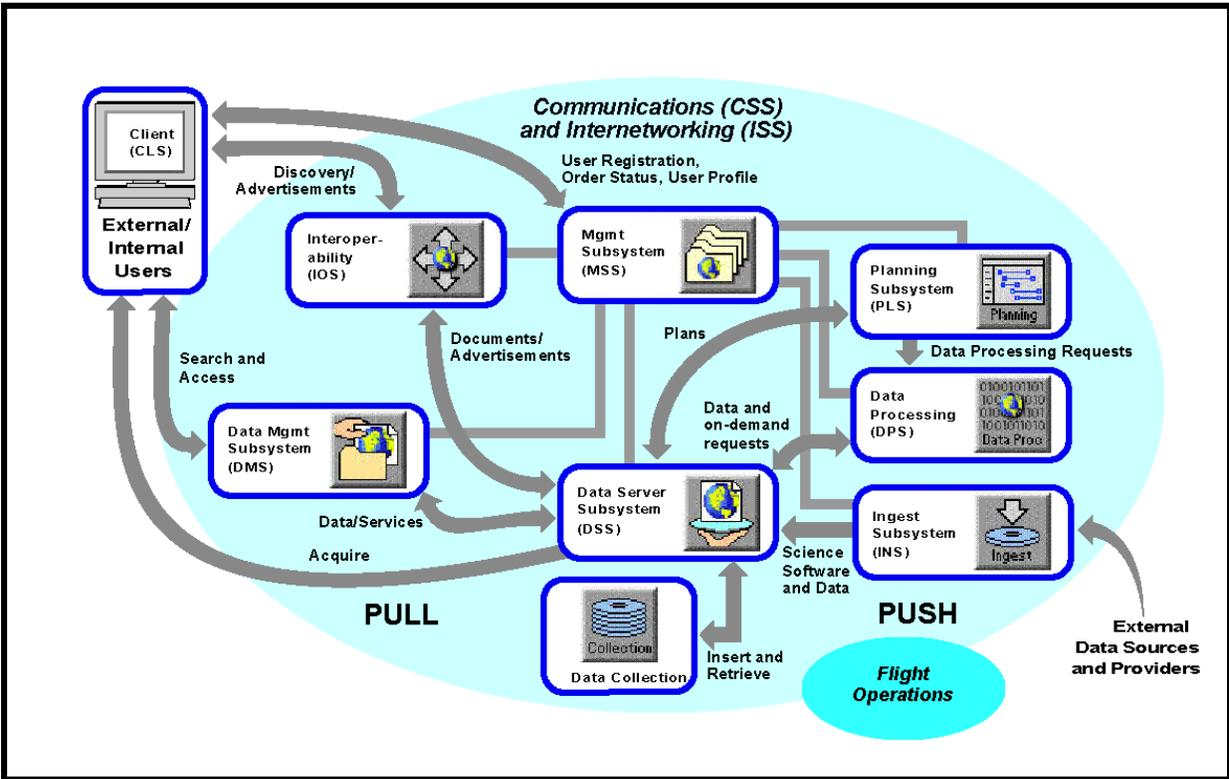
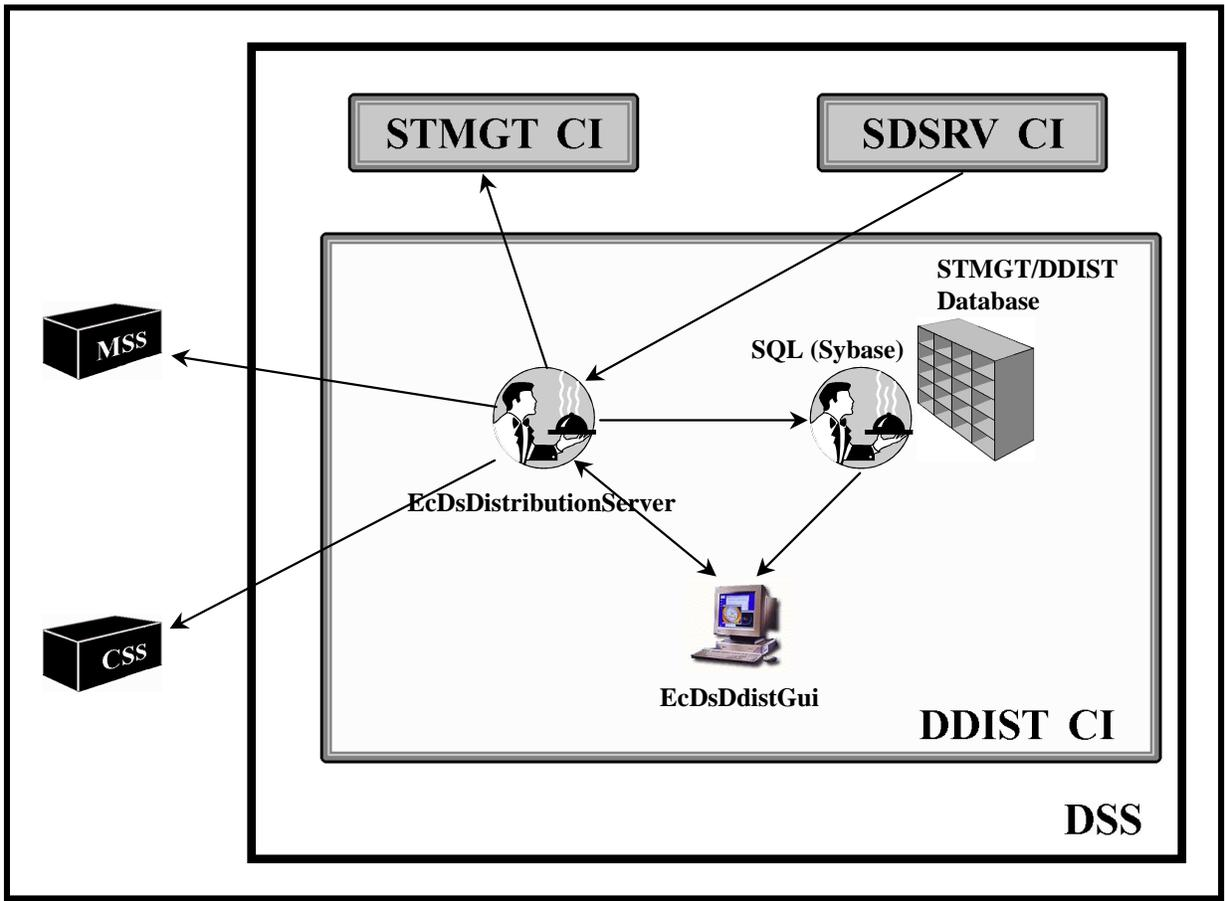

Figure 1. ECS Context Diagram
Figure 2. Data Distribution (DDIST) CSCI Architecture
The ECS Context Diagram (Figure 1) shows the relationships among subsystems within the Science Data Processing component of ECS. The Data Server Subsystem (DSS), which manages access to the data archive, is key to data distribution as well as several other functions. Of course, the context diagram shows a generalized (high-level) view of ECS. The Data Distribution (DDIST), Storage Management (STMGT), and Science Data Server (SDSRV) architecture diagrams (Figures 2 through 4 respectively) focus on the individual computer software configuration items (CSCIs) of the Data Server Subsystem and their relationships with each other and with other subsystems.
- DDIST (Figure 2) is the part of the DSS that formats and distributes data to users either electronically or on physical media (i.e., 8mm tape cartridges).
DDIST has the following three major components (as shown in Figure 2):